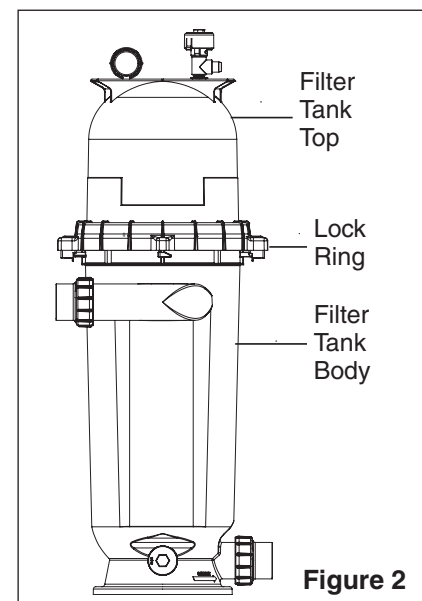

Figure 2
2. Be certain the O-ring is in position in the lower tank half. Place the filter lid over the lower tank half, making sure it is fully and firmly seated on the tank half, see **Figure 2**.